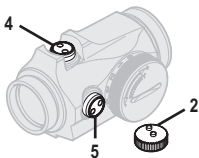

Fig. 3 Adjustment cap
- d The Adjustment Cap (2) or the Tool (13A) must be used to turn the Adjustment screws. Place the knobs on the Adjustment cap (2) into the recesses on the Adjustment screws (4) (5). See Fig. 3.